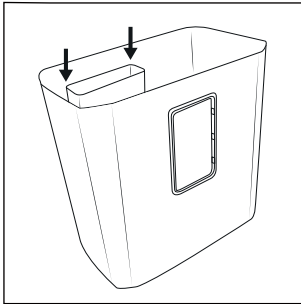

Fig. 1
- ◆ Place the small waste collector **10** in the large waste collector **12**. To do this, push the small waste collector **10** down along the guide rails in the large waste collector bin **12** until it is fully engaged (see fig. 1).